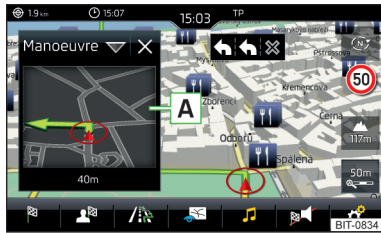

Fig. 208
The unit offers the possibility to show in the split screen display the following **Position** » Fig. 208 on page 179 information about the current geographical position of the vehicle and the satellite signal.
- To **select content** of the additional window **A** » Fig. 208 tap the function surface and select one of the following menus, depending on the context.